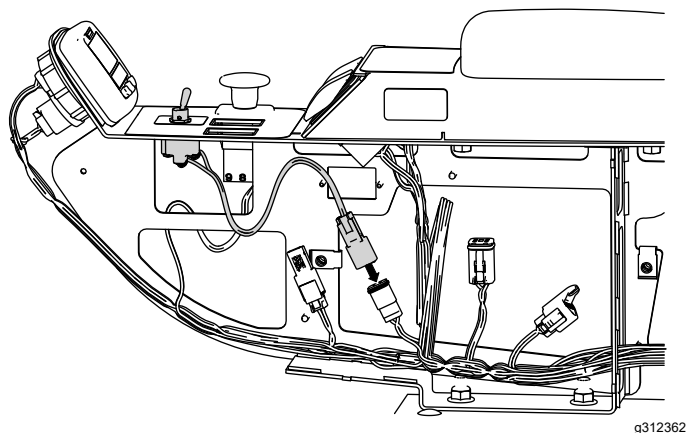

Figure 23
9. Connect the toggle switch to the machine wire harness as shown in Figure 23.